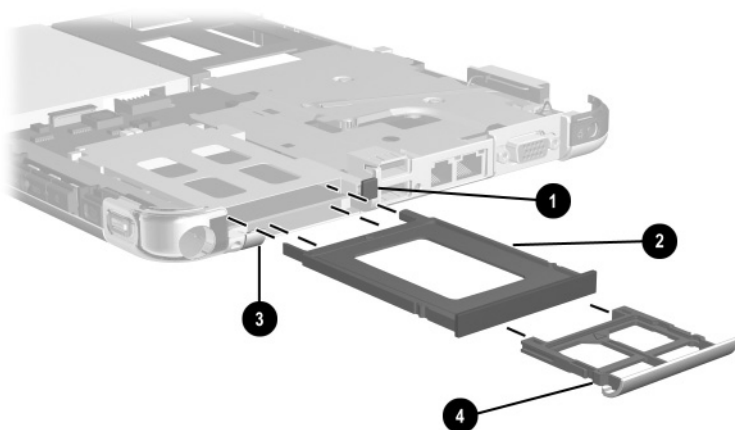

Figure 5-22. Removing the PC Card and CompactFlash Card Slot Devices
7. Press the PC Card release button ❶ to release it from the base enclosure. Press the button a second time to eject the contents of the PC Card slot (Figure 5-22).
8. Remove the PC Card slot device ❷ from the PC Card slot.
9. Press the CompactFlash card release button ❸ to release it from the base enclosure. Press the button a second time to eject the contents of the CompactFlash card slot.
10. Remove the CompactFlash card slot device ❹ from the card slot.